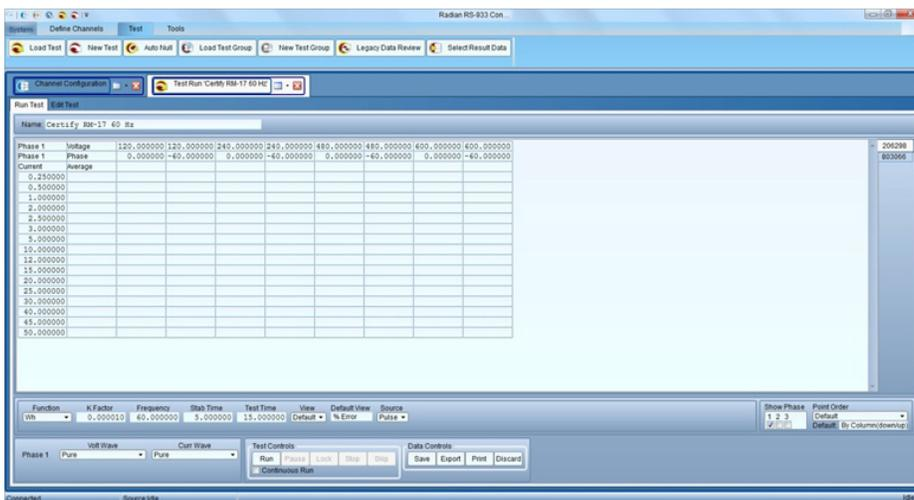

Figure 5:
- Select the Test tab and then Load test. If not already there, browse to C:\Documents and Settings\All Users\Application Data\Radian Research\RS-933 Control Application\Tests and load the test Certify RM-17 60 Hz.tst. See figure 5.